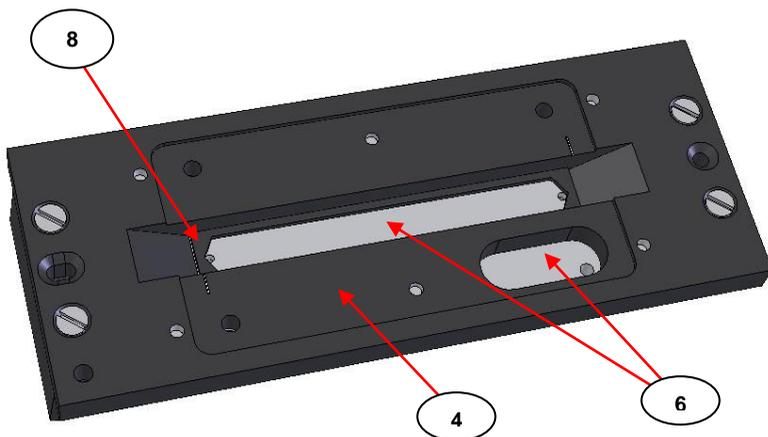

Fig 8. Isolast Gasket Seal in the Gateway™ ATR Flow Through Top Plate
When the ATR crystal (7) has been removed from the Top Plate assembly, access can be gained to the Isolast gasket seal (8) for cleaning or replacement with new if necessary. (See Fig 8.)
- 1) Having cleaned all of the parts sufficiently and whether installing a new crystal (7) and/or new Isolast gasket (8), re-assemble the Gateway™ ATR Flow Through Top Plate first by aligning correctly and centrally the Isolast gasket seal (8) into the underside channel recess of the main body plate (4). (See as for **Fig 8**.)